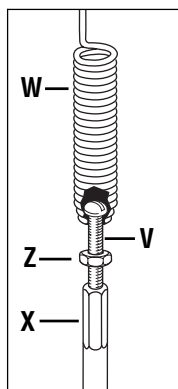
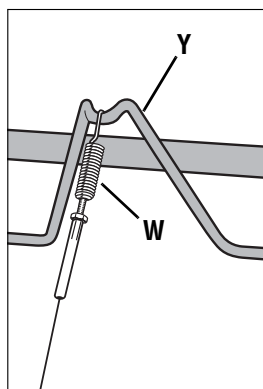

Fig. 2-5: Cable spring and adjuster.
Fig. 2-6: Attach forward clutch cable spring to forward clutch bail.
2. Thread the #10-24 hex nut (Z, Fig. 2-5) halfway onto the screw (V) which runs through the spring (W, Fig. 2-5).
3. Thread the screw (V) into the cable adjuster (X).
- a. With the Forward Clutch Bail (Y, Fig. 2-6) in an open (released) position, measure the length of the cable spring (W) from the outermost coil to the outermost coil.